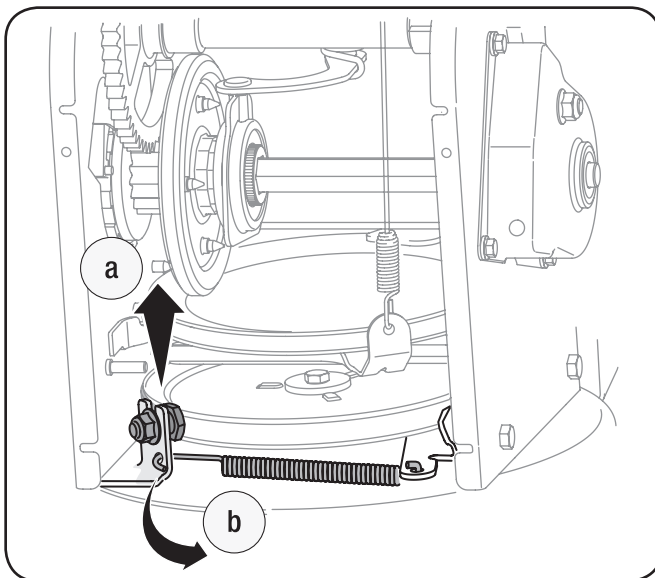

Figure 8-4
5. Remove the belt as follows. See Fig. 8-4.